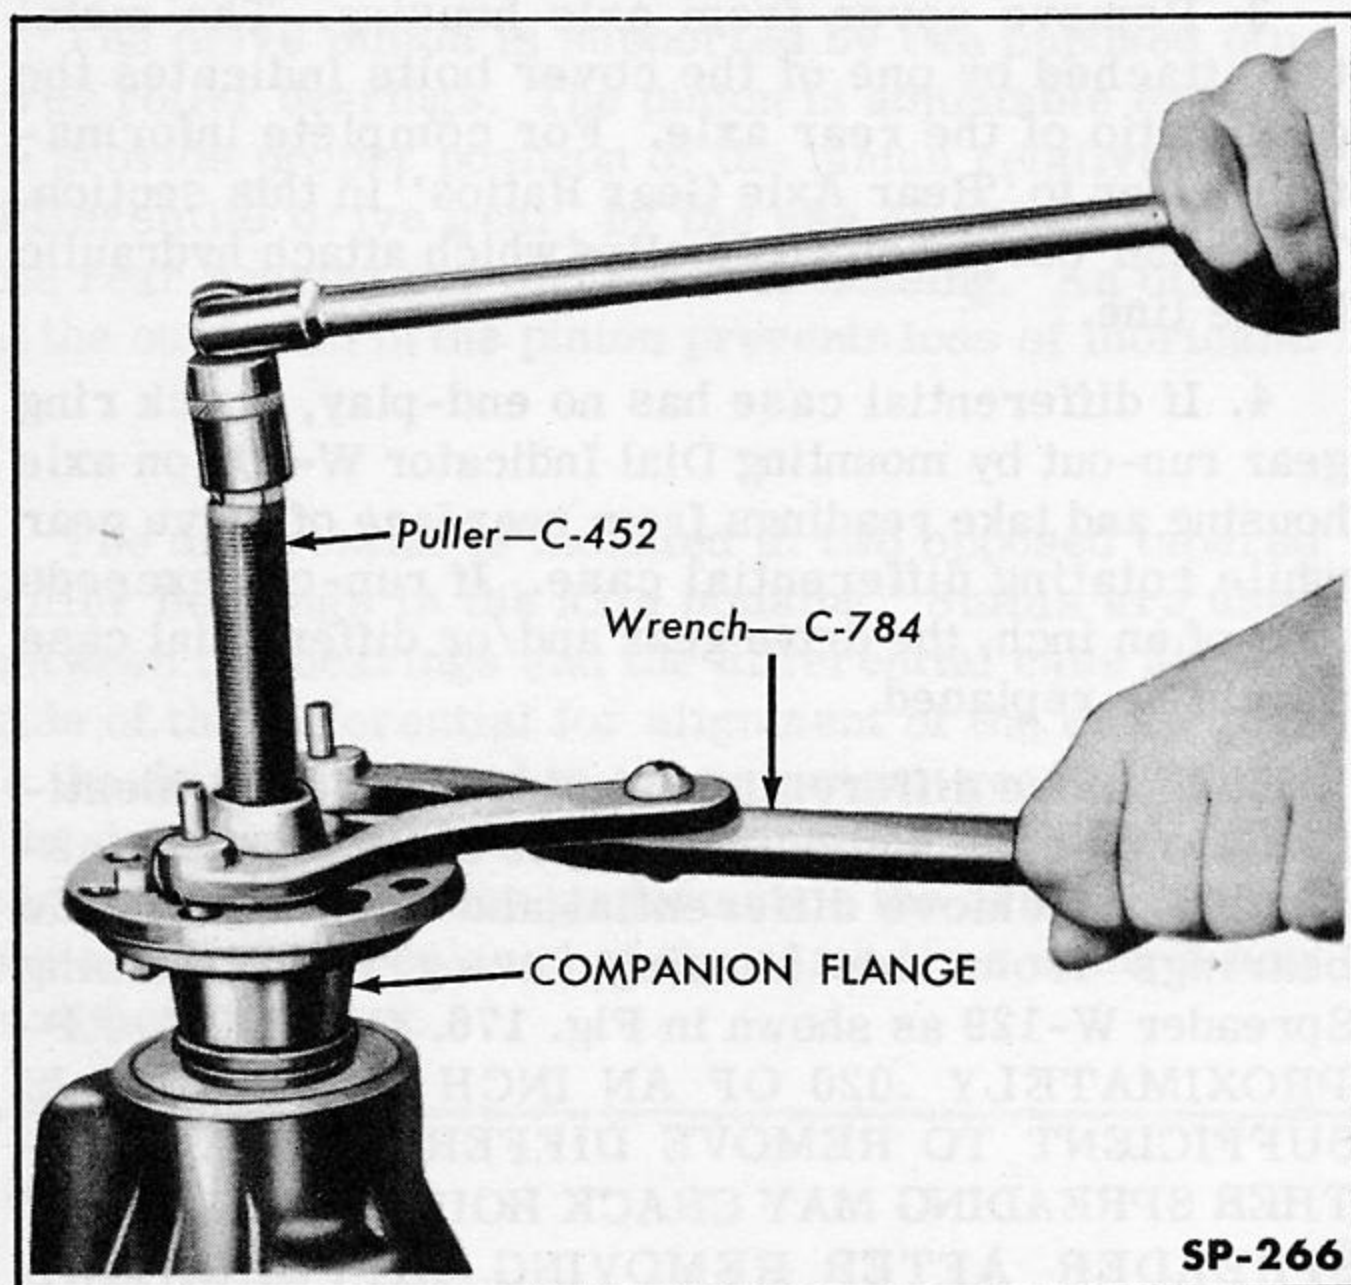

Fig. 177—Removing Companion Flange
6. Place Universal Joint Flange Holding Wrench C-784 on companion flange and remove attaching nut. Then, using Universal Joint Flange Puller C-452, remove companion flange (Fig. 177).